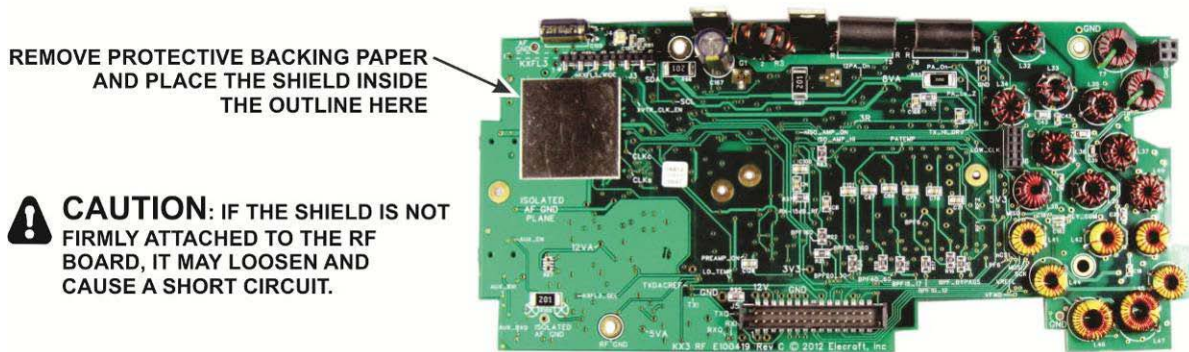

Figure 42. Installing the RF Board Shield.
□ Taking ESD precautions remove the RF board from its protective envelope and mount the shield in the square outline on the pc board. Peel the protective back covering off of the shield and align the shield carefully with the outline on the RF board as shown in Figure 42. Press on the shield to ensure it is well adhered to the RF board.